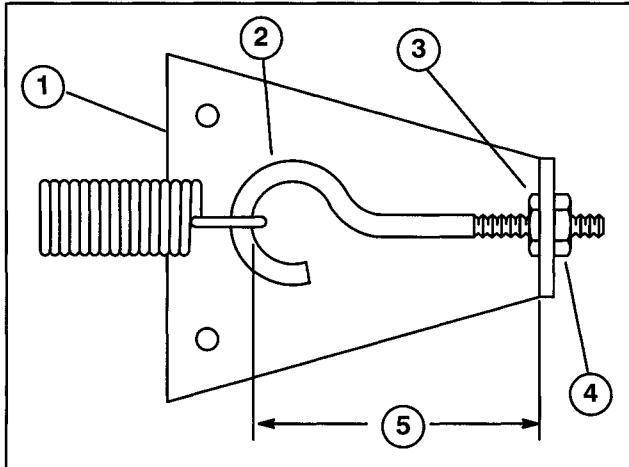

Figure 60
CHECKING AND ADJUSTING TRACTION LINKAGE (Fig. 60)
4. Rotate, clockwise, until distance between inside of eye bolt loop and inside of spring anchor plate is shortened $\frac{1}{8}$ ", as shown in figure 60. Tighten hex nut.